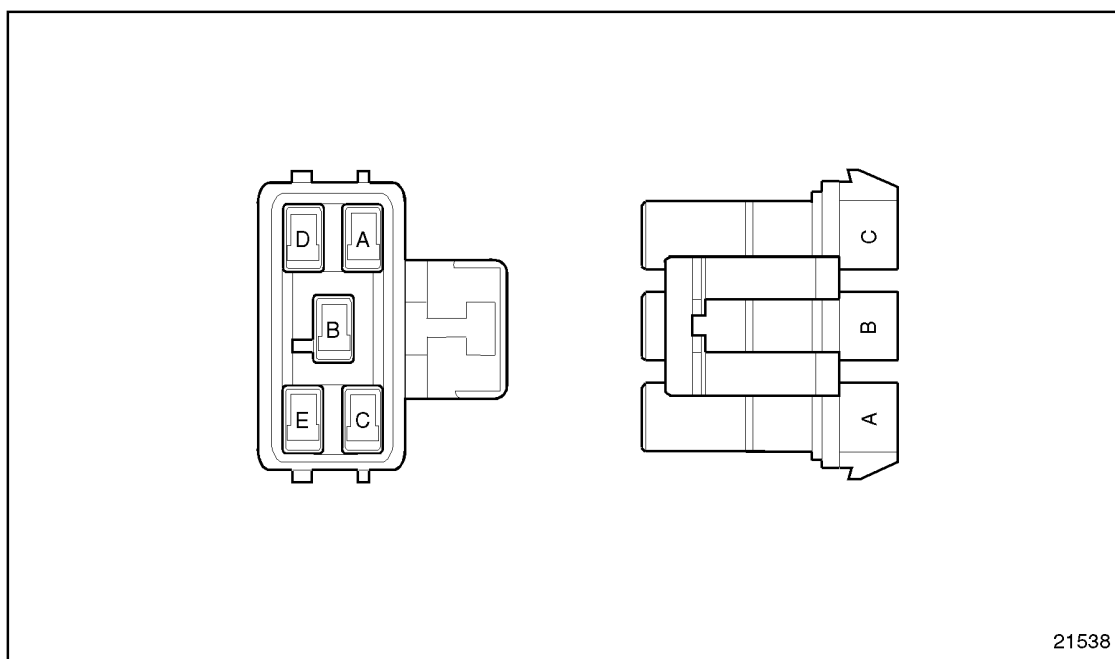

Figure 17-1 5-Way ECM Power Connector
2. Disconnect the 5-way power harness connector, see Figure 17-1.